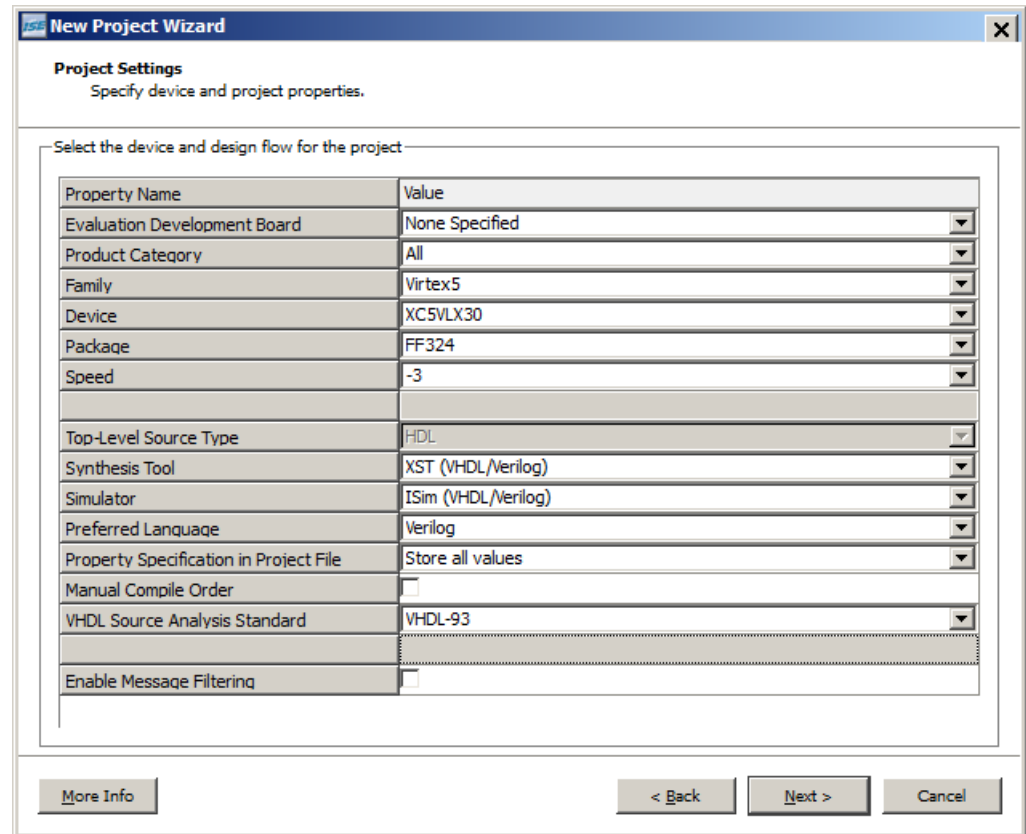

Figure 2-1: New Project Wizard: Project Settings
5. In the Project Settings window, you select the device and project properties. Change the settings to match the settings shown in Figure 2-1.